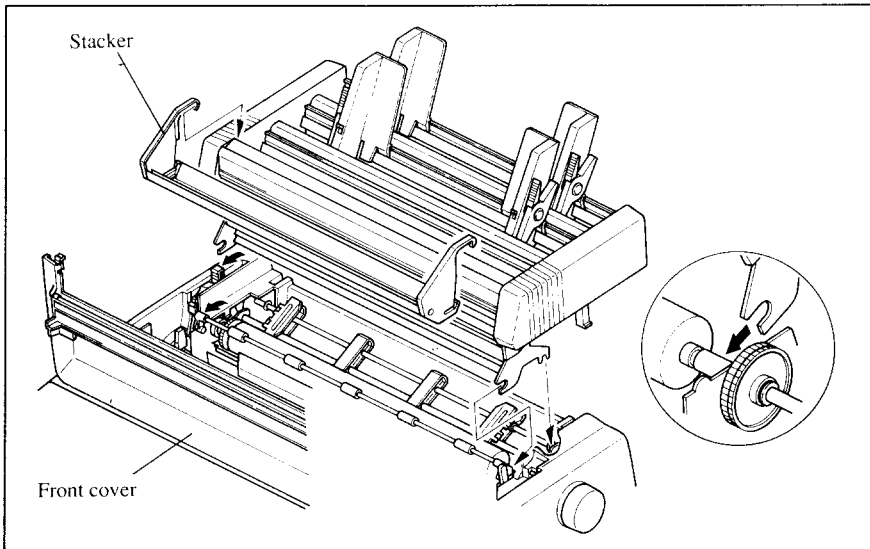

Figure 3-9. Attach the stacker to the Automatic Sheet Feeder.
4. A stacker is included with the Automatic Sheet Feeder. Attach the hook at the top of the stacker to the Automatic Sheet Feeder. Then push the lower section of the stacker down into position, and engage the lower hook as shown in Figure 3-9.